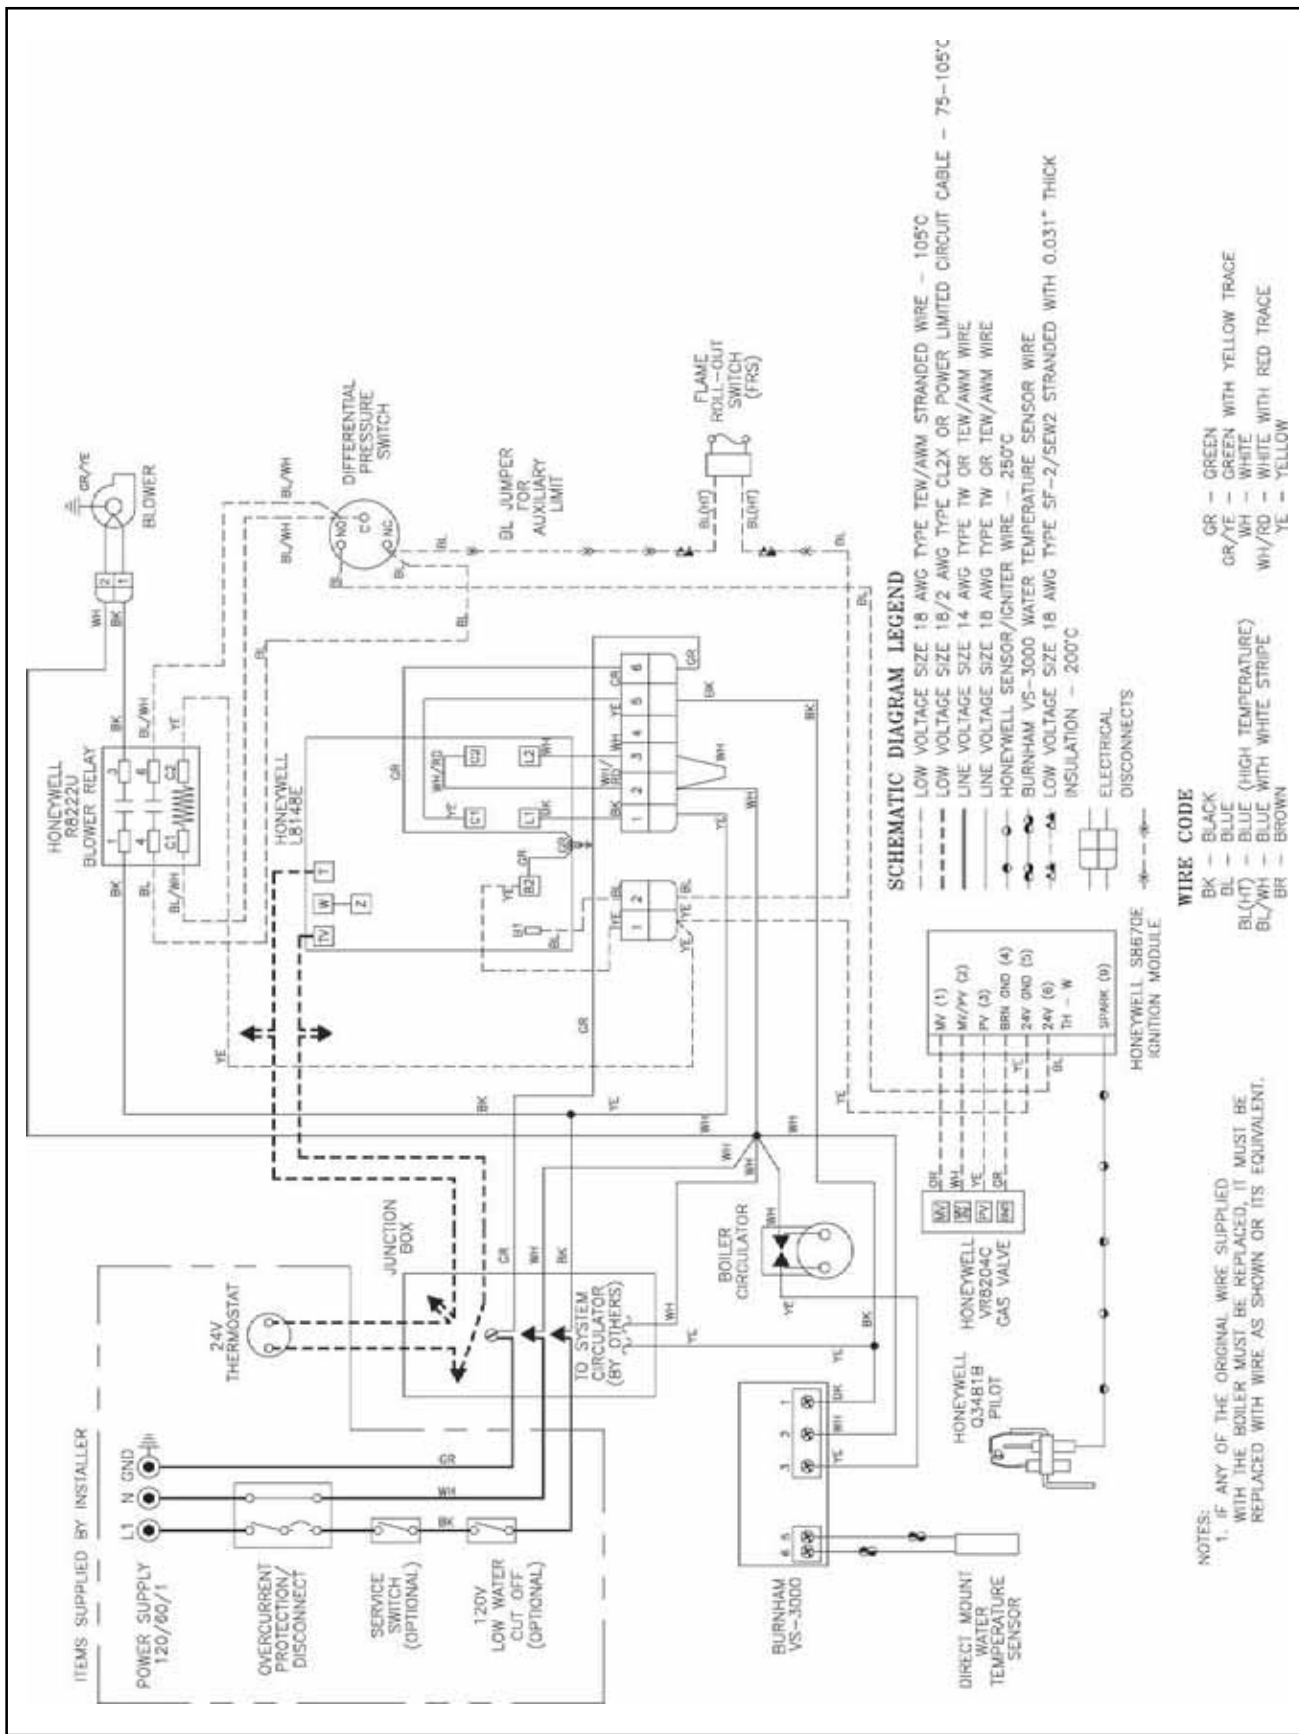

Figure 31: Internal Boiler Wiring Schematic Diagram
- B.** A separate electrical circuit must be run from the main electrical service with an over-current device/disconnect in the circuit. A service switch is recommended and may be required by some local jurisdictions. Install the service switch in the line voltage "Hot" leg of the power supply. Locate the service switch such that the boiler can be shut-off without exposing personnel to danger in the event of an emergency. Connect the main power supply and ground to the three (3) boiler wires (black, white and green) located in the junction box at the inside top of the boiler jacket. If a low water cutoff is to be used, connect the low water cutoff so that all 120V power to boiler is interrupted if the low water cutoff's switch opens.
- C.** Refer to Figures 31 and 32 for details on the internal boiler wiring.